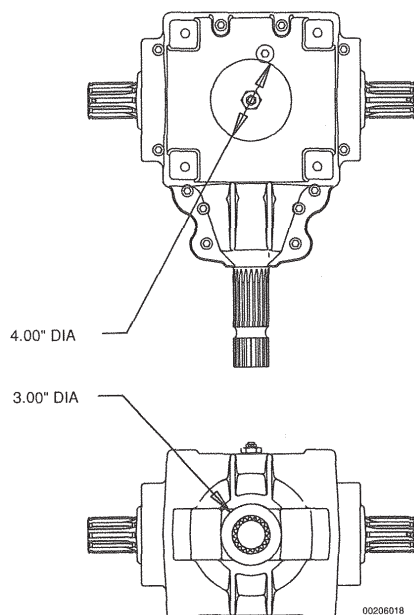

Figure 33. Acceptable Oil Leakage
1. Oil covers less than a 3-inch diameter area around the shaft seal area (see Figure 33).
2. Oil covers 4 inches around the vent or drain plugs (see Figure 33).